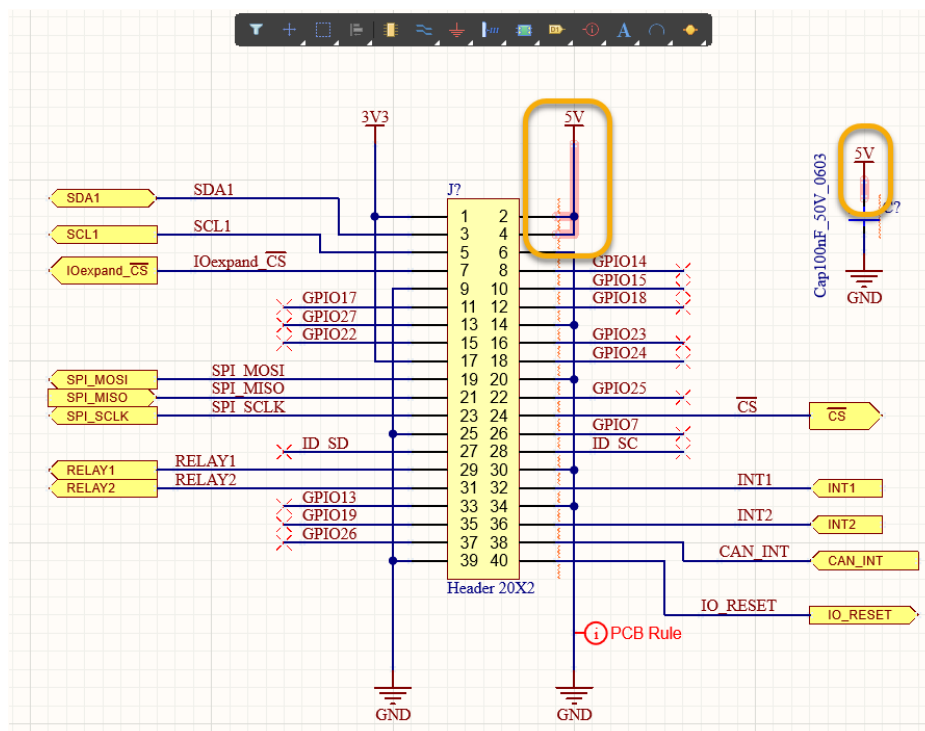

Figure 3. `Processor_Interface.SchDoc` with 5V net highlighted in red
13. Click on a wire connected to a 5V Power Port to highlight the entire net in red as shown in Figure 3.